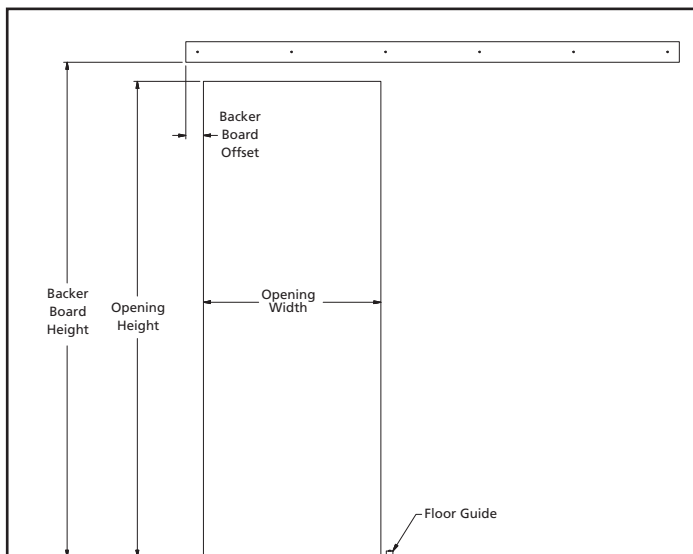

Figure 14. Backer Board Placement
1. Reference Figure 14 on Page 7, to locate the installation location of the floor guide, relative to open/closed positions of the system.